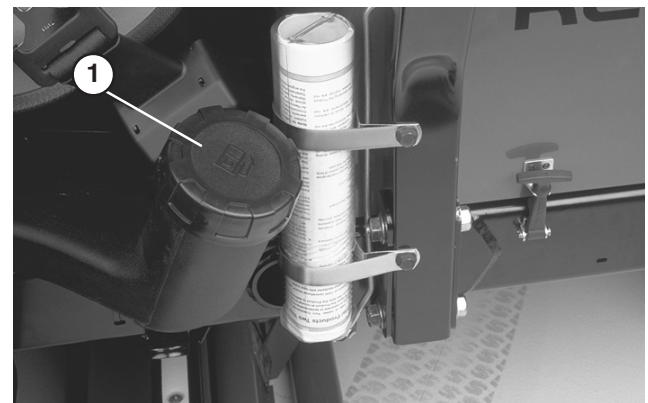

Figure 30
1. Clean area around fuel tank cap (Fig. 30).